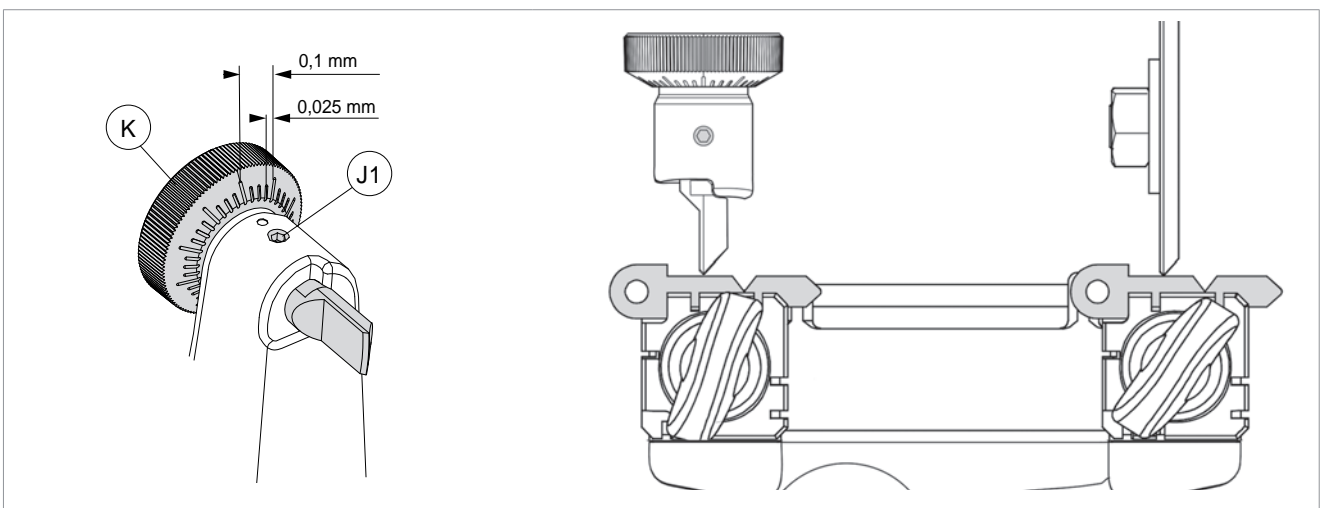

Fig. 17
- 6) Unlock the carriage with the lever (B) and move it towards the cutting tool.
- 7) Take the keys into contact with cutting tool and tracer point (Fig. 17).
**NOTE: each notch on the centesimal ring corresponds to 0,025 mm (Fig. 17).**